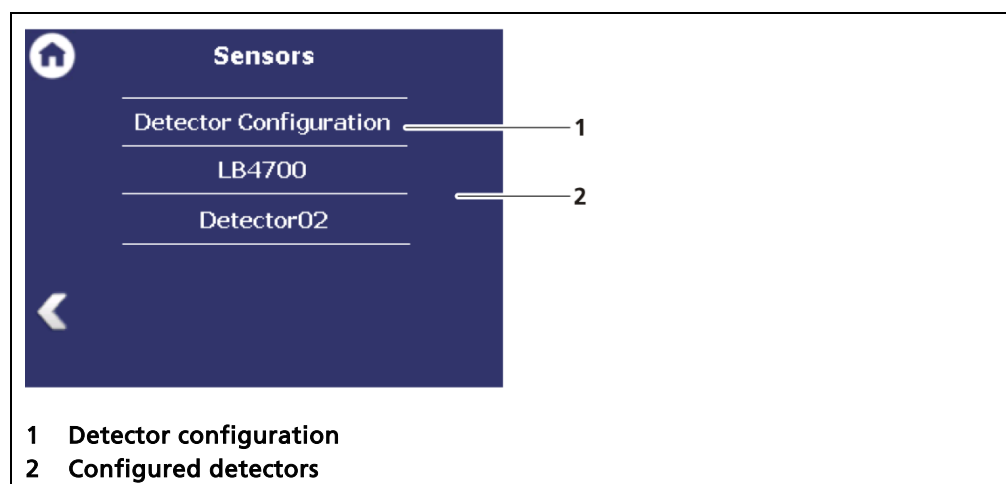
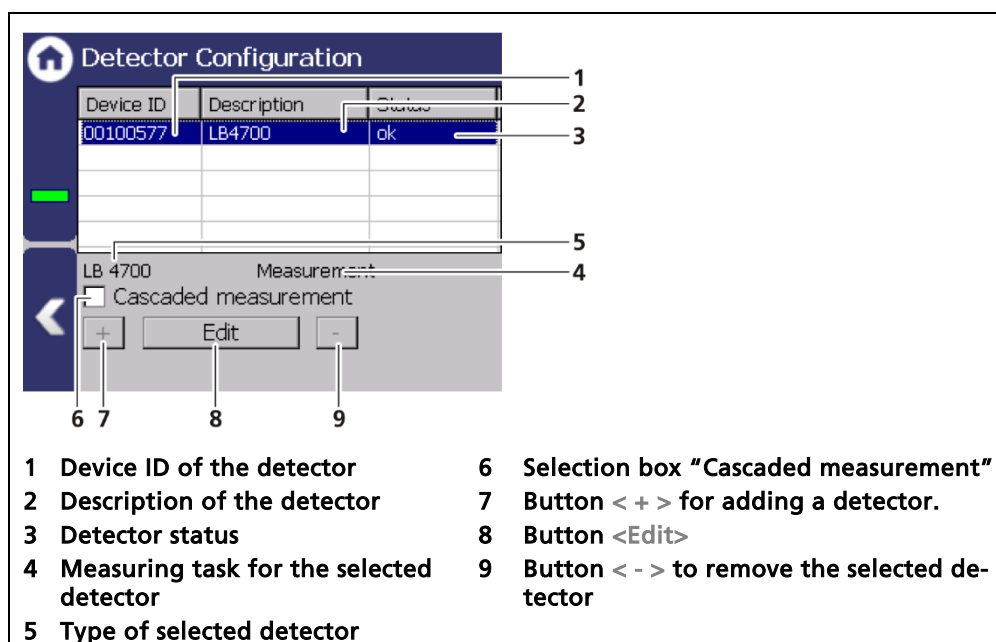

Fig. 55 Menu "Sensors"
Fig. 56 Detector configuration
- Detector configuration (Fig. 55, item 1)
- Configuration of the respective detector (Fig. 55, item 2)
If the system does not detect a detector, then the sub-menu "Detector" (Fig. 55, item 2) cannot be selected.
In the sub-menu "Detector configuration" the detectors for the measuring system are added and configured. Only configured detectors are listed and shown in the menu (Fig. 55). When a detector is selected, the detector type (Fig. 56, item 5) and measuring task (Fig. 56, item 4) are shown.
Clicking the box <Edit> (Fig. 56, item 8) selects the type of detector and changes the description. The boxes <+> and <-> can be used to add and remove detectors for cascading measurement.
The editing of the settings of a configured detector are edited by marking and clicking on <Edit> (Fig. 56, item 3).